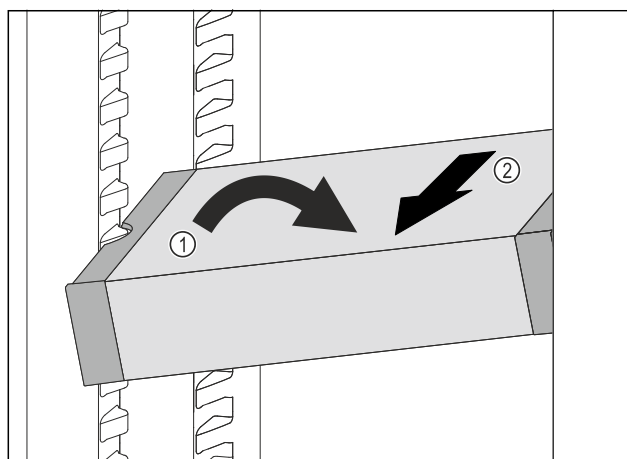

Fig. 124
- ▶ Set VarioSafe in refrigerator compartment at an angle. *Fig. 124 (1)*
- ▶ Take VarioSafe out to the front. *Fig. 124 (2)*